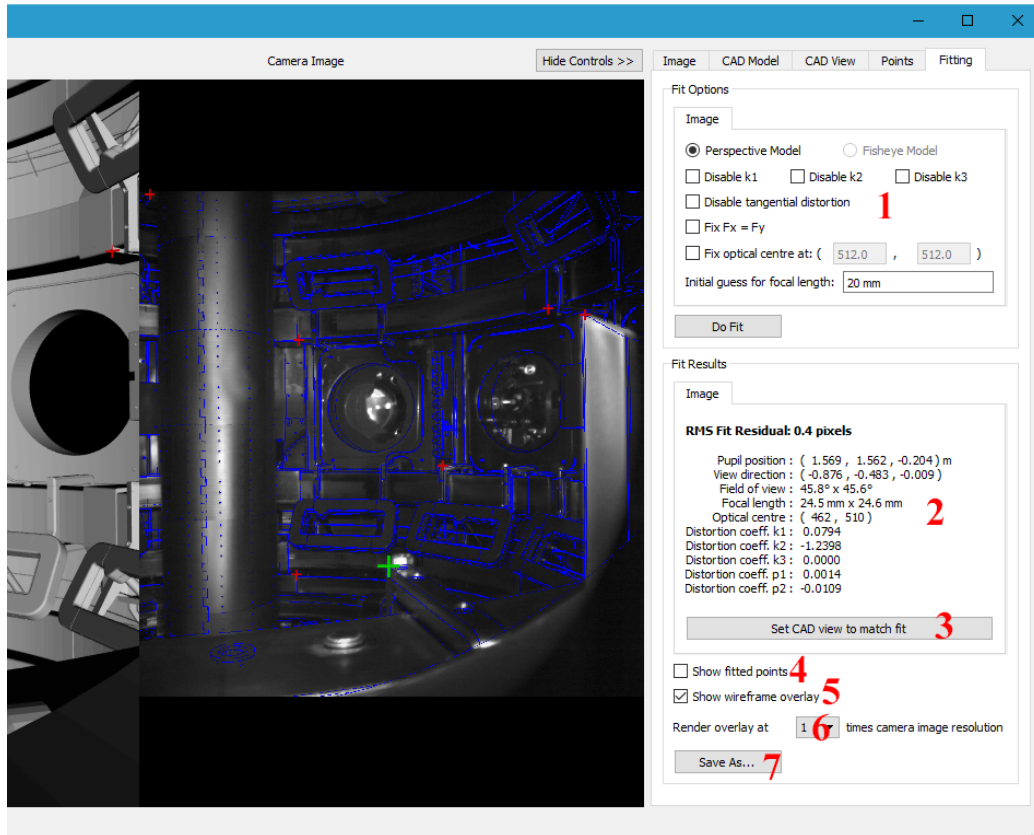

Figure 6: The fitting control tab.
Once you have defined a set of point pairs, fitting is performed with the controls in the Fitting tab, shown in figure 6. Before performing a fit, this tab contains only the ‘Fit Options’ section, with the ‘Fit Results’ section appearing once a fit has been performed.
Fit options are adjusted using the top section on the Fitting control tab, marked (1) in figure 6. The default options will typically produce good results for most images, however in some cases they will need to be adjusted to get a good quality result. For images with split fields of view, since each sub-field is fitted separately, tabs are displayed containing independent controls for each sub-field's fit options.